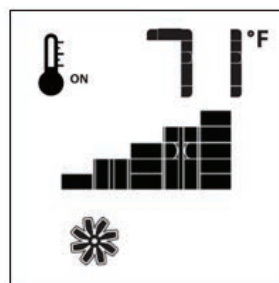

Fig. 69
If the Heater is equipped with a hot air circulating fan, the speed of the fan can be controlled by the Proflame2 System. The fan speed can be adjusted through six (6) speeds. To activate this function use the Mode Key (Fig. 56) to index to the fan control icon (Fig. 68). Use the Up/Down Arrow Keys (Fig. 56) to turn on, off or adjust the fan speed (Fig. 69). A single “beep” will confirm reception of the command.